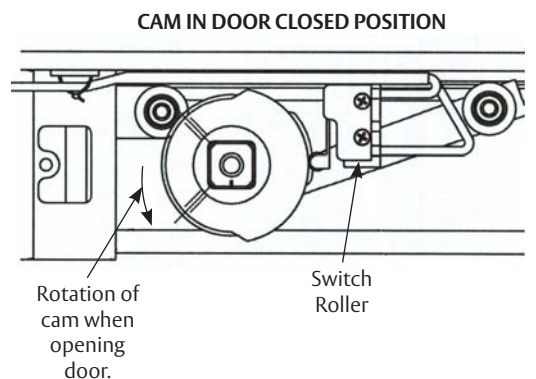

Figure 10
- Pull door open to desired hold open position. When switch roller travels down to bottom of incline, door closer will function as a standard multi-point holder. (Figure 10) Depending on door size and closer fall back, cam may need to be adjusted so that switch roller is positioned further from base of incline. When cam is positioned properly for desired door operation, tighten both set screws firmly.